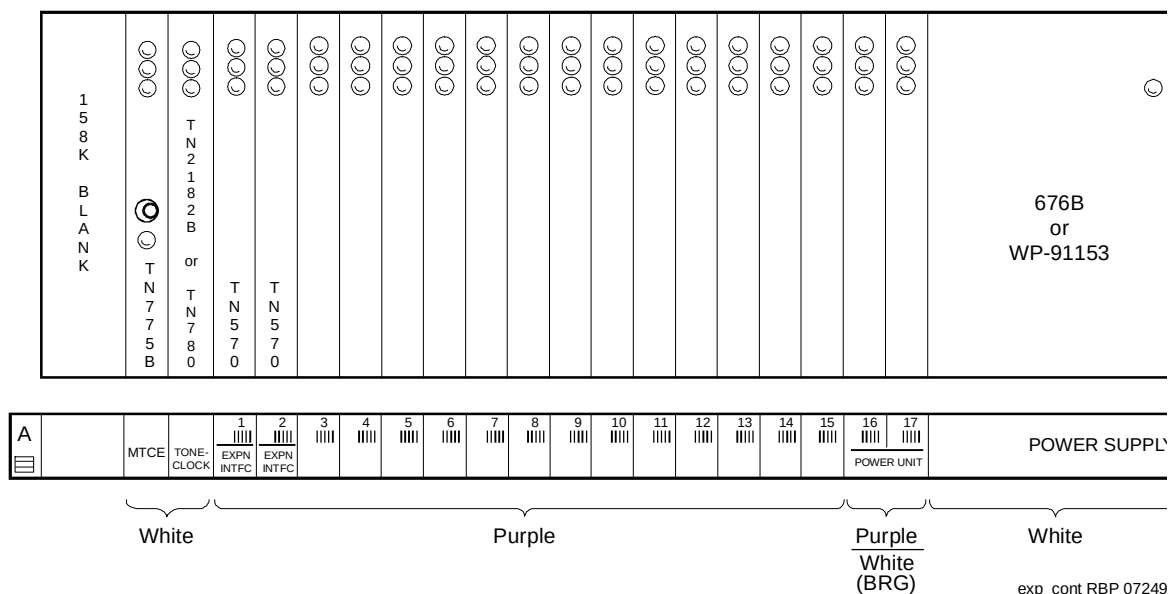

Figure 7-41. Circuit-Pack Locations in DEFINITY ECS Release 5 Expansion Control Carrier
1. See WARNING and NOTE. Install the new DEFINITY ECS Release 5 control circuit packs into carriers "A" and "B." See Figure 7-41. The new decal, and the annotated "list configuration all" (provided with the DEFINITY ECS Release 5 translation memory card) as a guide.